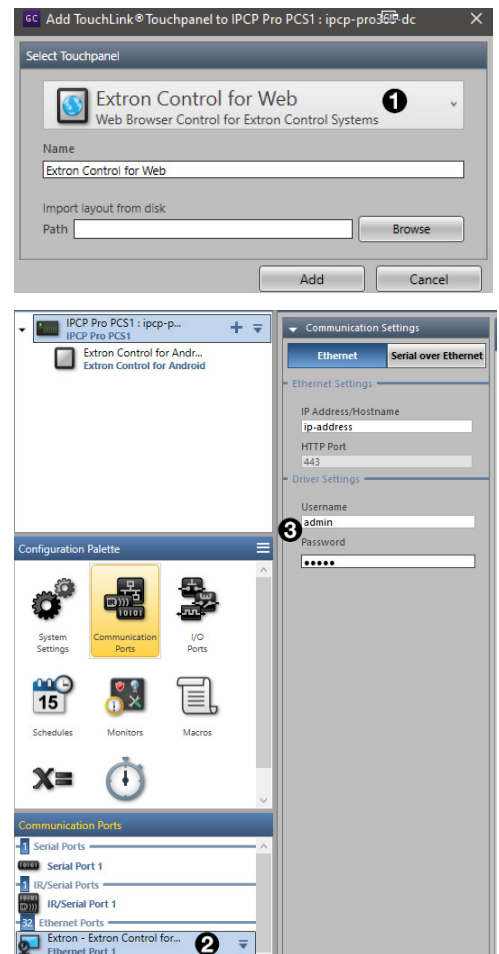

Figure 2. GCP Configuration
6. Select **Extron Control for Web** (see figure 2, ①).
- a. Select the Ethernet port with the Extron Control for Poly Touch Controller driver (②).
- b. Enter the IP address, Username and Password (③) of the Poly Android Videoconferencing Device (see Requirements on page 2).